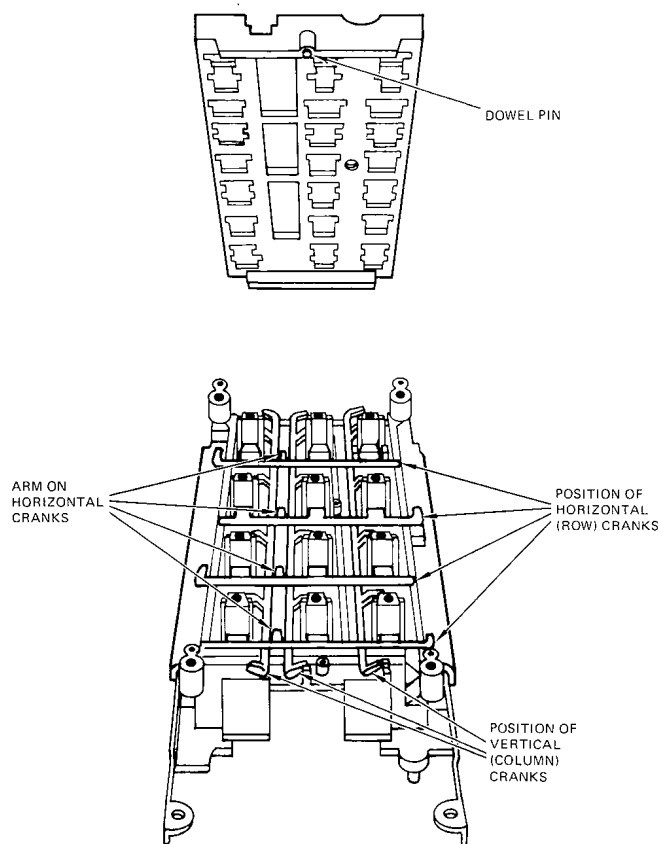

Figure 6: Relative Position of Cranks
- (c) Place the vertical (column) cranks in position. The arms of the cranks ride on the flanges of the pushbuttons. (See Figure 6.)
- (d) Place the horizontal (row) cranks in position in the cover plate. The arms that contact the actuator slide must be to the assembler's left and must point upward. The round section of each crank must ride in the appropriate slots. (See Figure 6.)